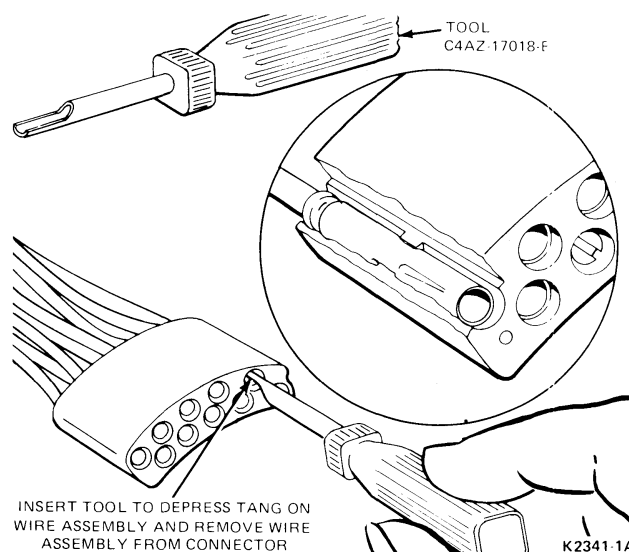

FIG. 9 Wire Connector—Removal
6. Remove the wires and terminals from the steering column wiring connector plug (Fig. 9). Record the color code and location of each wire before removing it from the connector plug.